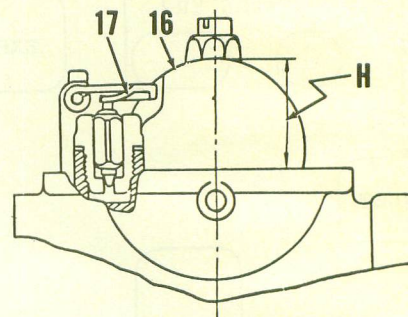
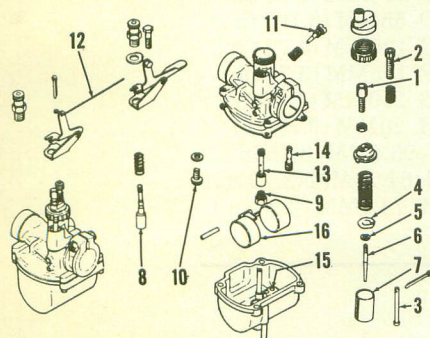

Fig. Y5-2—Float level (H) is adjusted by bending tang (17).
Fig. Y5-1—Exploded view of Mikuni VM carburetor. Starting valves for both carburetors are connected with rod (12).
CARBURETORS. Two Mikuni VM carburetors are used. Idle speed should be set at approximately 1,200 rpm by turning adjusters (2—Fig. Y5-1). Make sure that throttle slides (7) both stop at exactly the same position and exhaust pressure is the same for both cylinders. Idle mixture is changed by turning needles (11). Initial setting is 1½ turns open. Turning the needle counter-clockwise leans the mixture. Carburetors must be synchronized to open ex-
Float level (H—Fig. Y5-2) should be 25.5MM (1 in.) and is adjusted by bending tang (17) on float. Refer to Fig. Y5-1 and the following standard specifications:
Before adjusting the pump control cable, it is important that the throttle cable guides (1—Fig. Y5-1) are correctly set. To adjust the throttle cable guides, turn the idle speed adjusters (2) all the way down, then synchronize cable guides (1) so that both throttle slides (7) begin to move at exactly the same time when the hand grip is turned. The throttle cables should have approximately 1/16-inch free play after they are synchronized. Adjust the idle speed to 1,100-1,300 rpm by turning both idle adjusters (2). Make certain that both throttle slides stop at exactly the same time. Turn the throttle hand grip just enough to take up free play from the throttle cables (without changing idle speed) and check the oil pump setting mark and guide pin as